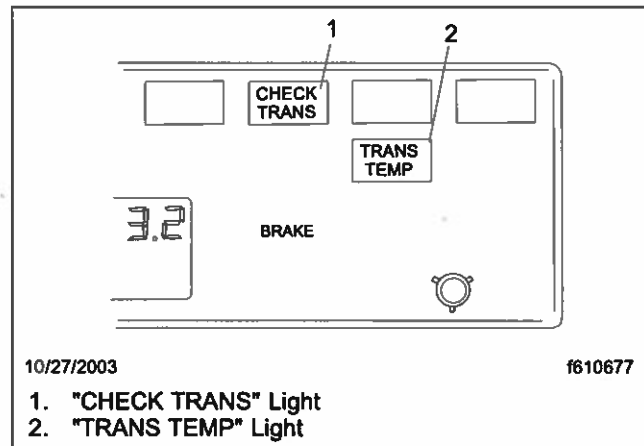

Fig. 8.6, Telltale Lights
1. With the parking brake set, select neutral (N) by moving the selector switch to the N position.
2. With the transmission in neutral, turn on the ignition switch. The "CHECK TRANS" and "TRANS TEMP" telltale lights come on and go out again (bulb check). See Fig. 8.6.